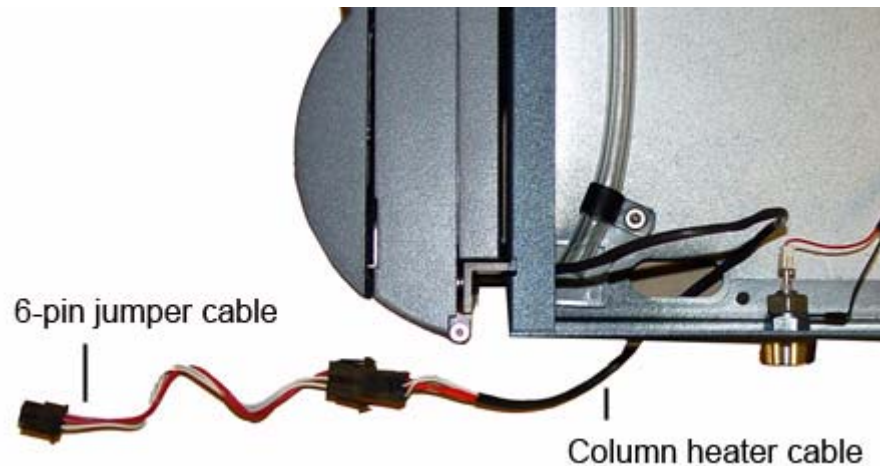

Figure 4 - Attaching the Jumper Cable to the Column Heater Cable
9. Attach the 6-pin jumper cable (441000851) provided in the kit to the column heater cable (Figure 4).